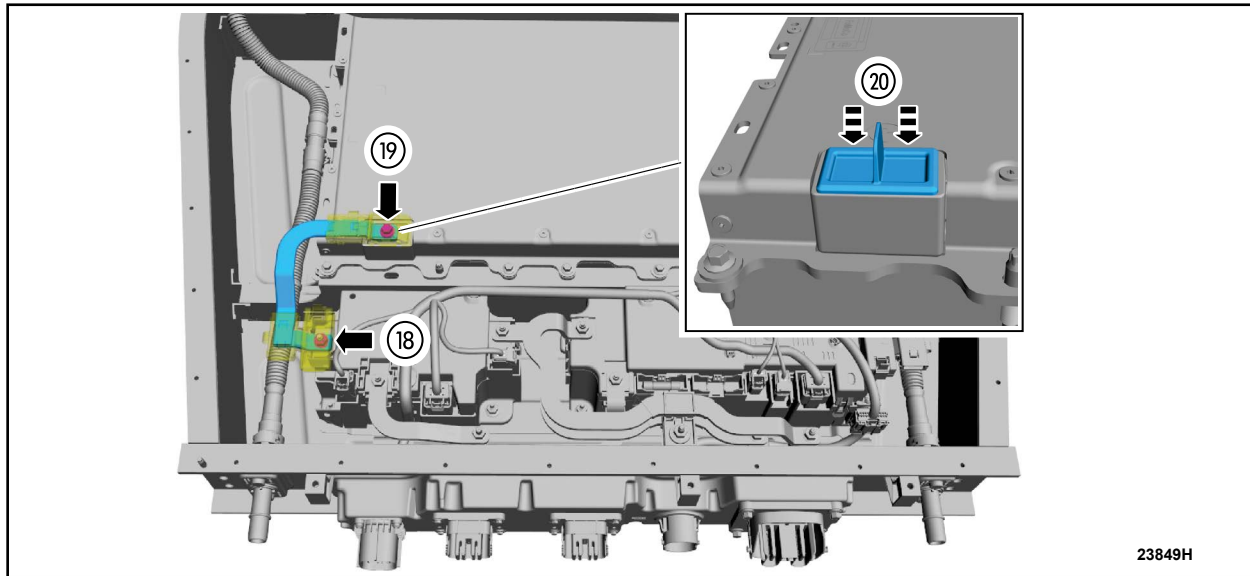

FIGURE 8
18. Open the terminal cover and remove the bus bar nut. See Figure 8.
19. Open the terminal cover, remove the bolt and the bus bar. See Figure 8.
20. Install the battery module terminal cover. See Figure 8.